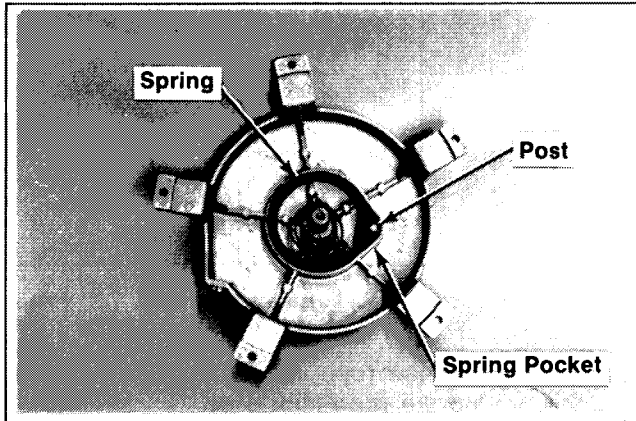

Figure 7-17. Position Of Spring In Housing.
1. Carefully note the position of the spring in the housing. Also refer to Figure 7-17. The new spring must be installed in the proper position – it is possible to install it backwards in the housing.
- Position the spring/c-ring to the housing so the spring hook is over the post in the housing. Make sure the spring is coiled in the correct direction. Refer to Figures 7-17 and 7-19.